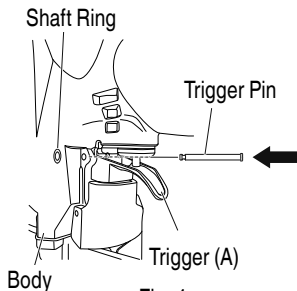

Fig. 4
Assembly can be accomplished by the procedure indicated by Fig. 4.
As shown in Fig. 4, pass the Trigger Pin firmly through the hole of the Trigger (A), and install the Shaft Ring on the Trigger Pin.